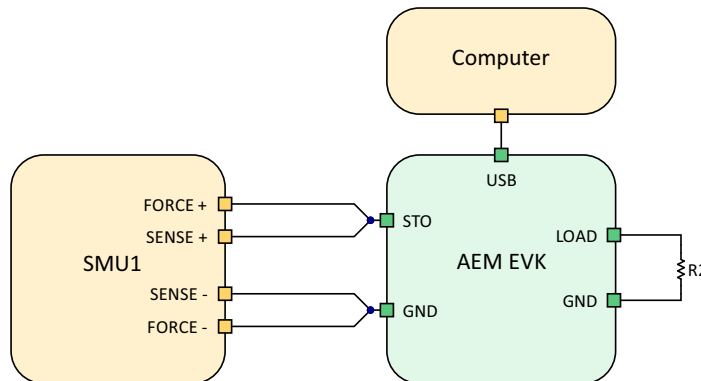

Figure 3: LOAD APM calibration base setup
Wire the equipment as shown in Figure 3. Please note that if the calibration of **LOAD**'s buck converter is done right after the calibration of the LP boost converter (described in Section 3), PSU1 can be left connected to **SRC** to coldstart the AEM15820. Otherwise, the AEM15820 can be coldstarted from the 5V charger as described in Section 5.4.2.
Referring to Figure 3, configure SMU1 as follows:
- Use PSU1 from the SRC calibration and set the voltage/current of PSU1 above the cold-start voltage/current defined in the datasheet. It is then mandatory to switch off/remove PSU1 for the calibration (PSU1 is not shown on Figure 3).